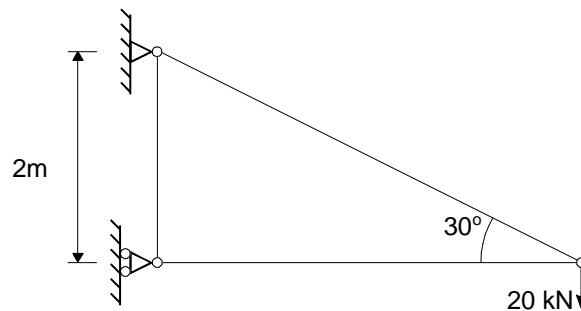

Figure 2
- For the pin jointed structure shown in Figure 2. Determine the vertical and horizontal displacements at the loading point. The value of AE for each member is 200 MN .